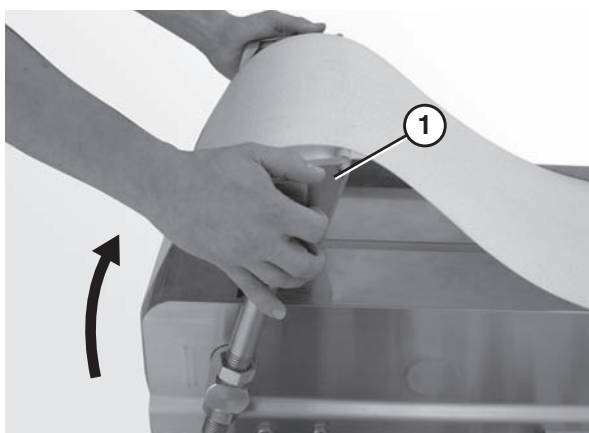

Figure 41
1. Place the idler tail (**Figure 41, item 1**) in the up position.